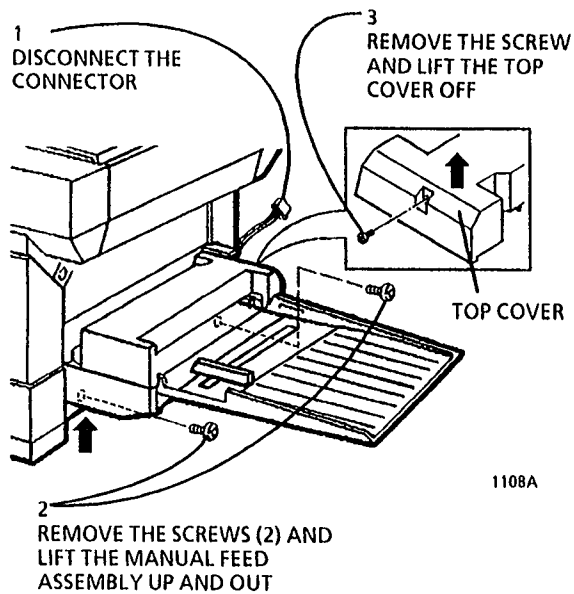

Figure 1. Removing the Manual Feed Assembly and the Top Cover
2. (Figure 1): Remove the Manual Feed Assembly and the Top Cover.